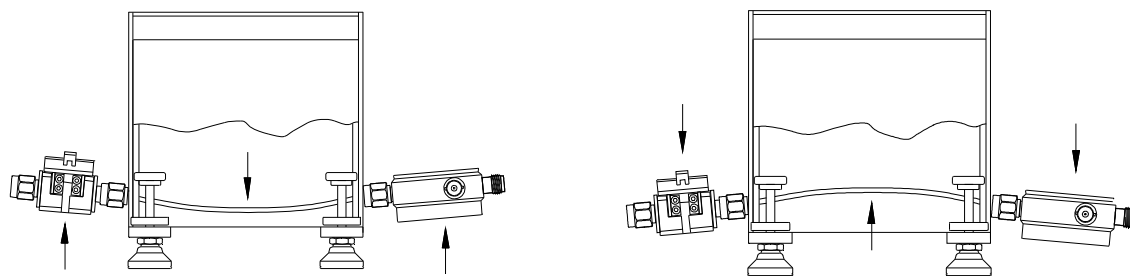

Figure 2. Effects of Improper Connector Support
- Adjust the instrument supports to provide proper alignment with mating devices. Never allow the instrument to be supported by the connectors. Refer to Figure 2 for effect of improper support.
NOTE: Verify that the tuner connectors are correctly aligned before any measurements are attempted. Improper connector alignment may damage the tuner. Refer to Figure 2 for effect of improper alignment.